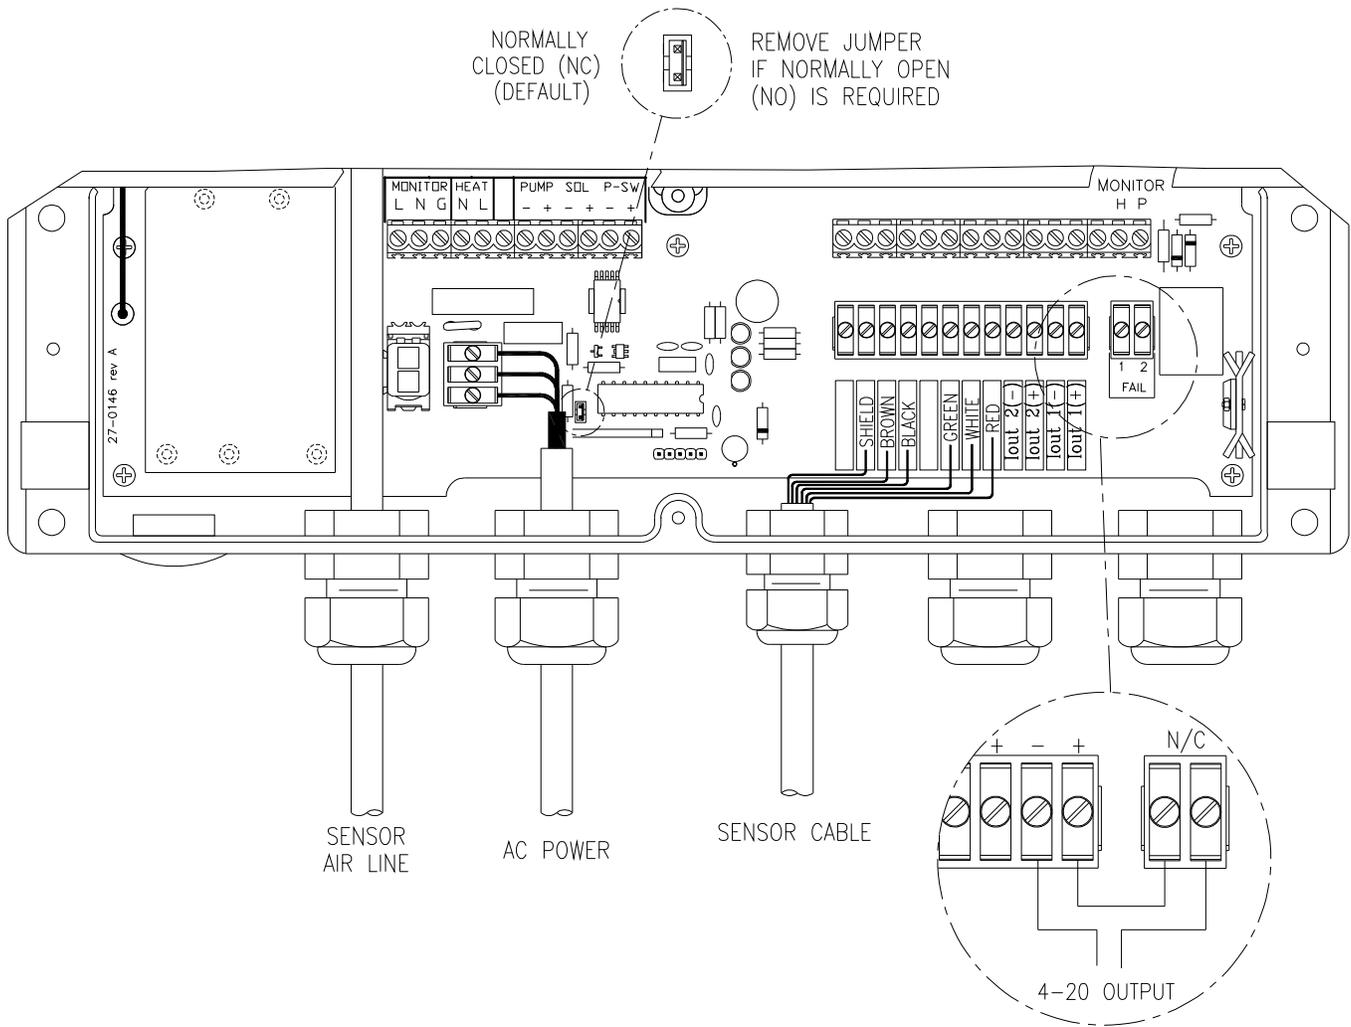

Figure 13 - Cleaner Failure 4-20 wiring & jumper map configuration
The relay associated with this alarm is a SPST relay that can be configured with a jumper to operate either as a normally open (NO) or normally closed (NC) contact. The jumper is located just to the right of the AC power connection terminal block as shown in Figure 13. Note that Figure 13 indicates that the jumper needs to be removed to make the relay a Normally Open (NO) contact.